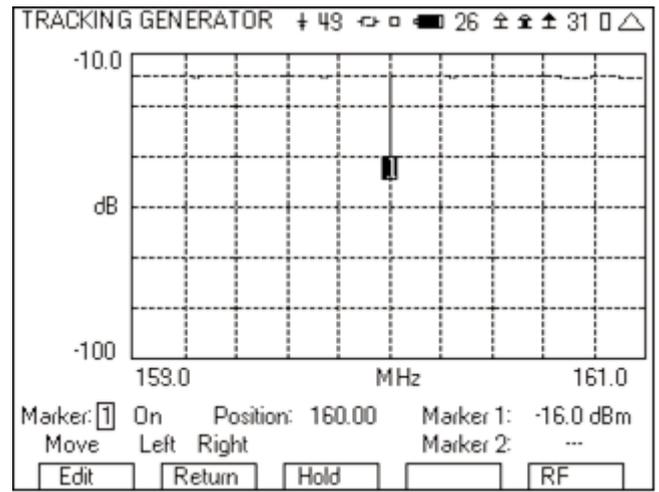
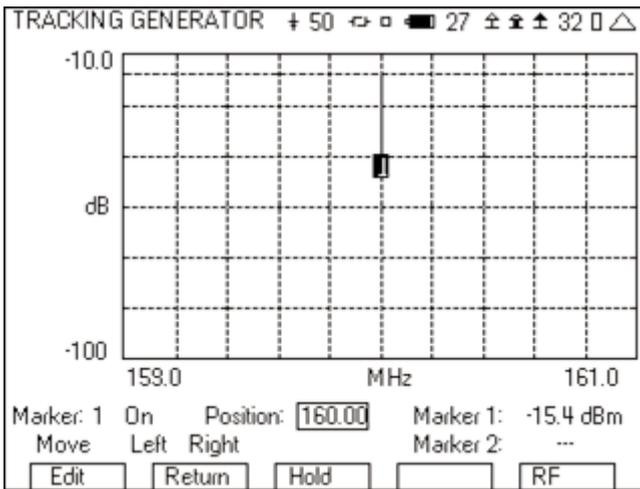
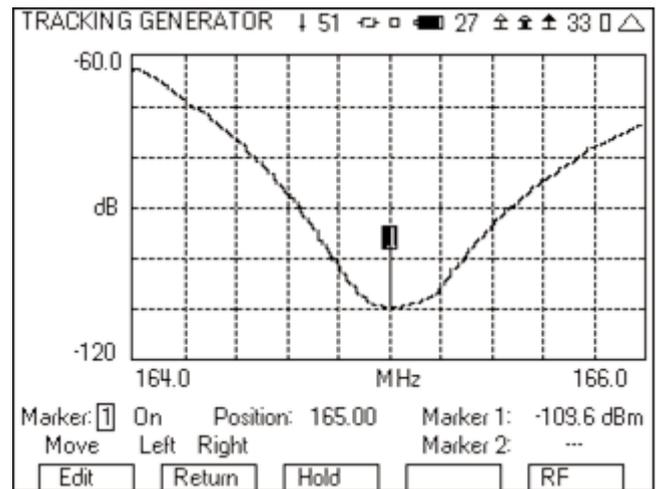

Figure 34 - Pass band loss
Figure 33 - Pass band ref level
Figure 35 - Zooming in to the reject band of the duplexer
9. The pass band loss is the difference between Figure 33 and Figure 34.
5. The rejection then is the difference between Figure 33 and Figure 35.